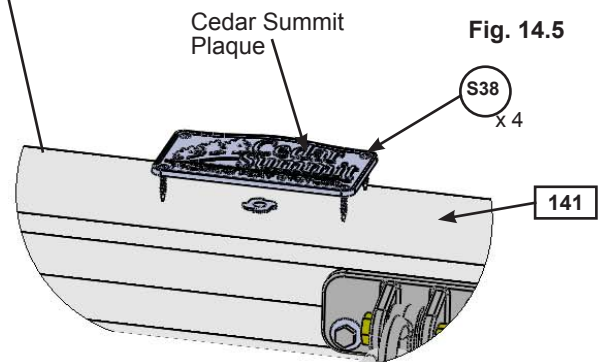

Fig. 14.5
**D:** Attach Cedar Summit Plaque to centre of (141) Engineered SW Beam (over top of t-nut) using 4 (S38) #7 x 1-1/8" Pan Screws. (fig. 14.5)